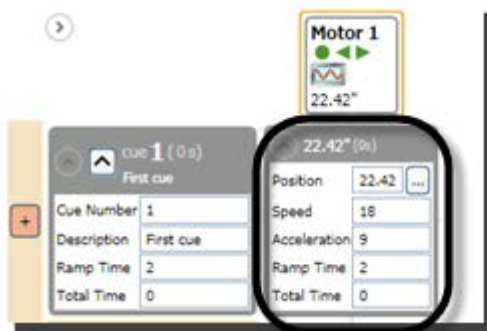

Figure 127
- After you press the “+” button, a movement will appear displaying the parameters for the motor in the cue (Figure 127).